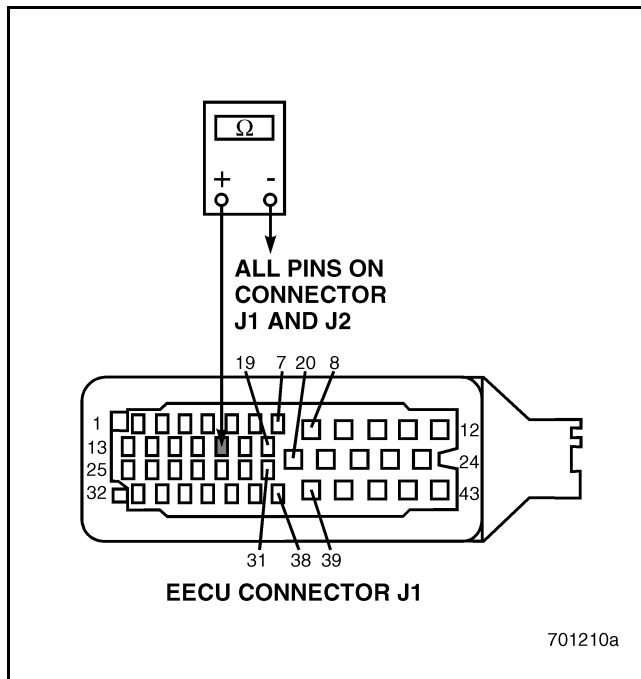

Figure 146
4. Check for continuity between EECU harness connector J1 pin 17 and all other pins on EECU connectors J1 and J2 (see Figure 146).